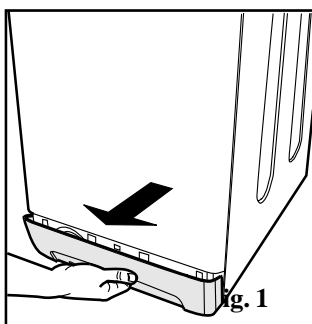
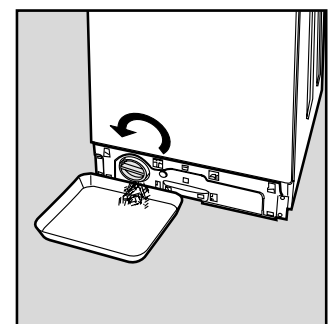

Fig. 1
Fig. 2
- These indications can be found on the data plate situated on the back of the washing machine front base. (fig. 1)
To access this pre-chamber, just remove the panel covering the bottom of the washing machine (fig. 1); then lift the cover rotating it anti-clockwise (fig. 2) and check its contents accurately.